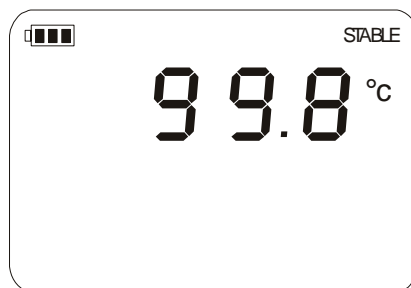

Figure 13: Unit returns to measurement mode
4. When the **cal** and **°C/°F** keys are released, the unit will return to measurement mode (Figure 13).